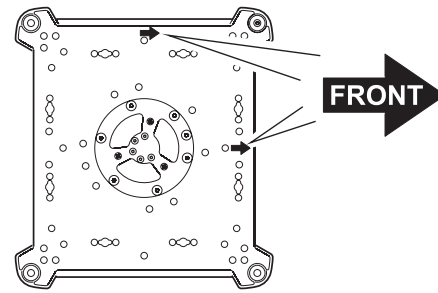

Figure 6: Front of fixture
- See Figure 6. Note the position of the arrows on the bottom of the base that indicate the front of the fixture.